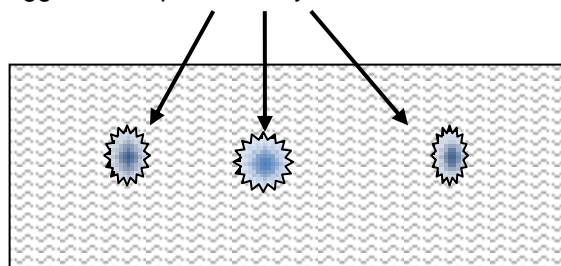

Figure 1: Standard twist drill should not be used to drill holes in sheet metal
Drilling holes in sheet metal is difficult, and the results may be damaged work. This is especially true with standard twist drills over 12.7 mm (½ in) in diameter. The standard twist drill has a tendency to "hook" into the thin metal. This "hooking" action is caused by the rake angle created by the helix of the flutes and the drill point. A clean, round hole is not produced by the standard twist drill (See Figure 1).
2. By referring to Figure 1, you can understand how “the rake angle created by the helix of the flutes and the drill point” creates the “hooking” action.
Passage 2 is an evaluation of a drilling operation and a type of problem. It directs you to Figure 1 to show you the problem. The passage describes the problem, looks at the cause and offers a solution.